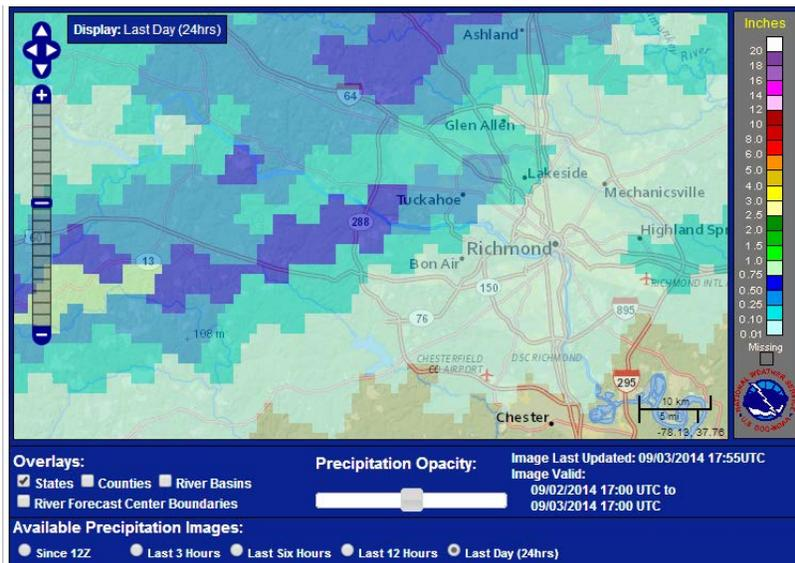

Figure 5. Sample Precipitation Summary
- ✓ Rainfall data can be gathered from the link below by navigating to the vicinity of the outfall on the map and selecting the last day or last 2 days. The map will depict rainfall precipitation ranges using a color scale (See Figure 5):